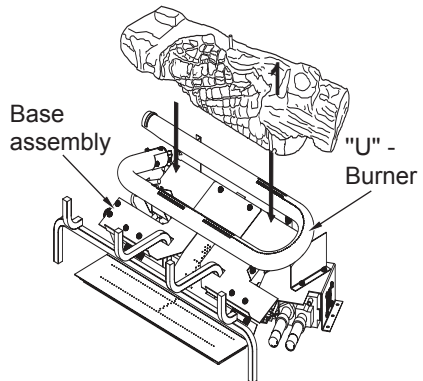

Figure 44 - Installing Log # 1
- Place the rear log (#1) on base assembly as shown in Figure 44. Log will fit over right end of burner and rest in middle of U-burner.